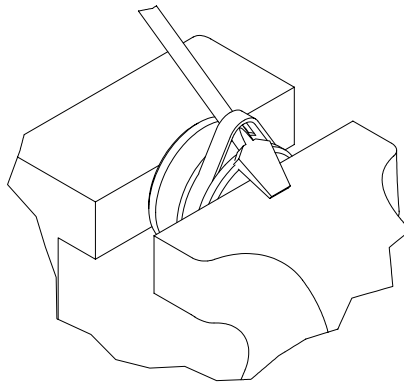

Figure 4-4, Piston Seal
8. Carefully pry up on the piston seals using a blunt tip screw driver being careful not to scratch the seal grooves. Cut the seals to remove from the piston. (Figure 4-4)